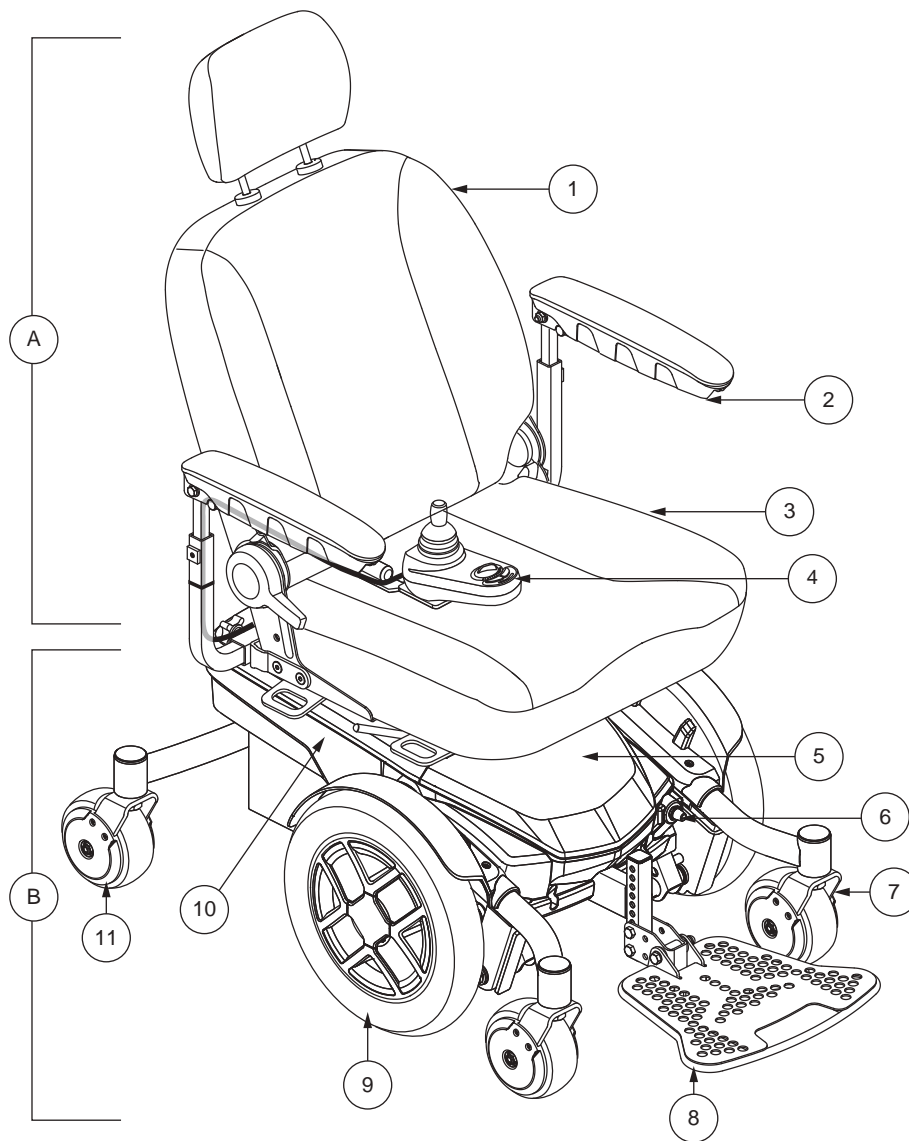

Figure 1. The Jazzy EVO 613 Power Chair
The Jazzy EVO 613 Power Chair has two main assemblies: the seat assembly (A) and the power base assembly (B). See figure 1. Typically, the seat assembly includes the armrests, seatback, and seat base. The power base assembly includes two motor/brake assemblies, two drive wheels, two batteries, and wiring harnesses. See figures 1, 2 and 3.